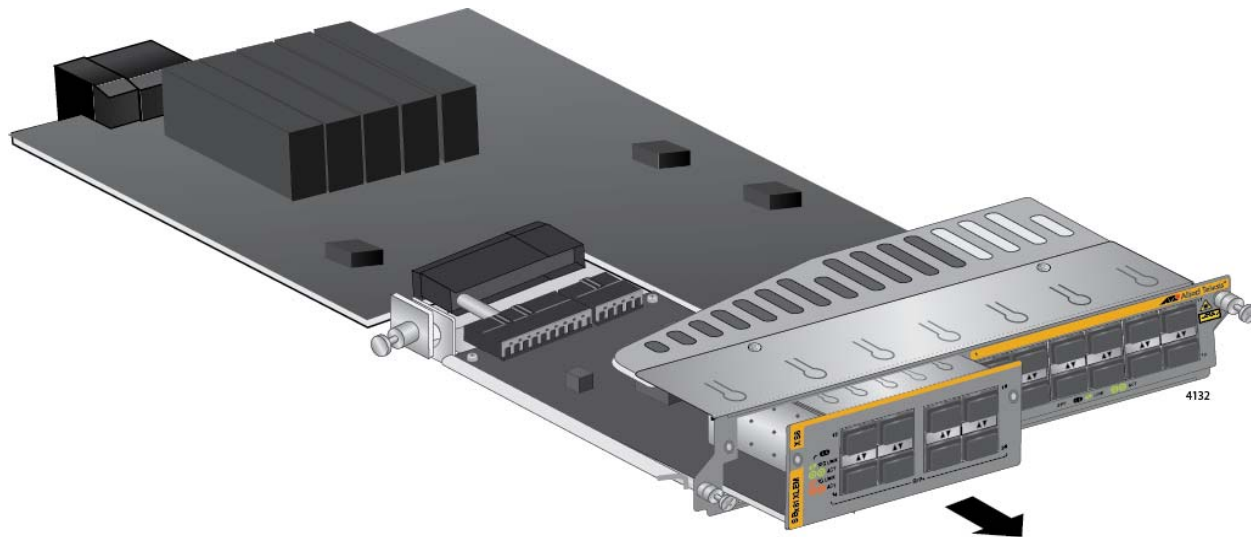

Figure 172. Sliding the Expansion Module from the AT-SBx81XLEM Line Card
6. Slide the expansion module from the line card. Refer to Figure 172 on page 274.